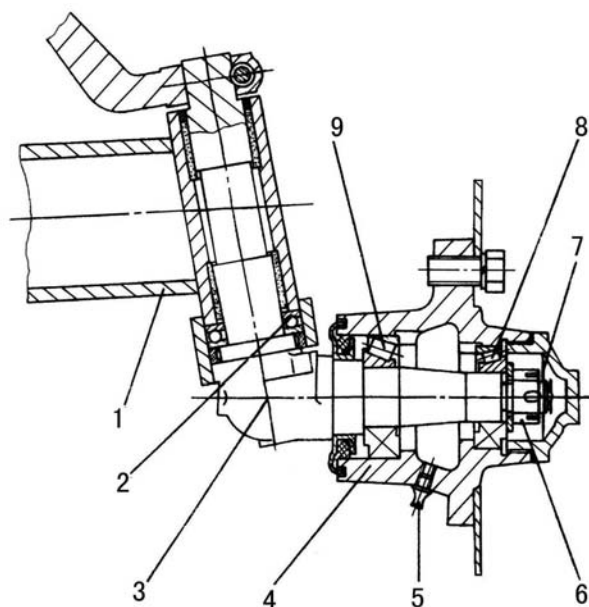

Fig.4-7 Front wheel hub and steering knuckle
The normal axial clearance between front wheel bearings (8) and (9) is 0.1-0.2mm(Fig.4-7). During operation, when the clearance is more than 0.4mm, the front wheel will swing to left or right during walking; and the bearings are easily broken by shock load, so adjustment